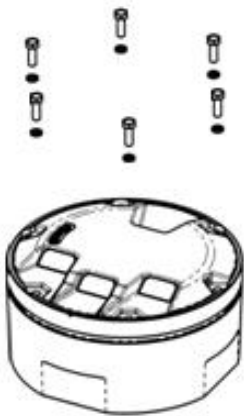

Figure 5-1
- Dismount M10×30 screws and spring washer (see Figure 5-1)